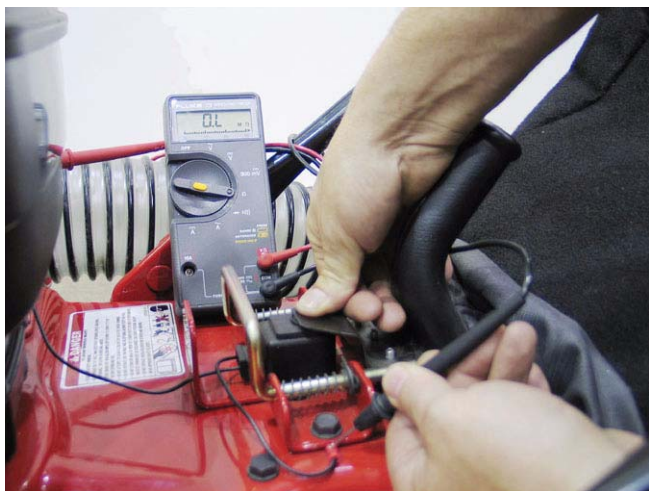

Figure 1.4
- 1.4. If slight pressure on the tab breaks continuity, adjusting the tab by bending it downward will enable the switch to work correctly. See Figure 1.4.